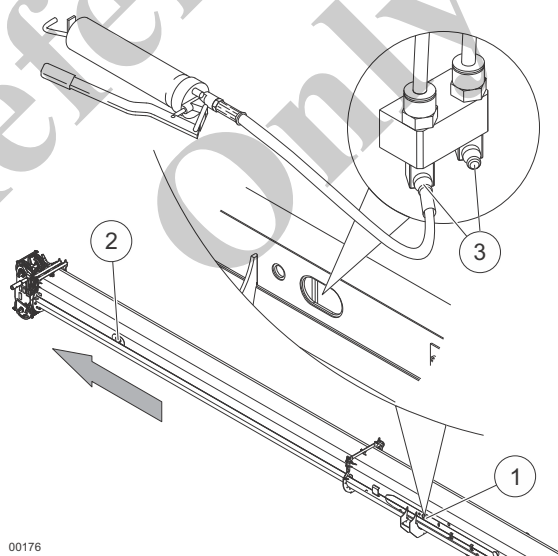

Fig. 37 Lubricating the telescopic boom
9	Extend the telescopic boom to 21.9 m – The lubricating opening (1) in Fig. 37 at the basic body must align with the opening of the telescopic section below it.
10	Lubricate the lubrication points (3) in Fig. 37 by five strokes of the grease gun.
11	Repeat the procedure at a boom extension of 40 m and at lubrication opening (1) in Fig. 37 to lubricate the third telescope section.
12	Repeat the procedure at a boom extension of 39.5 m and at lubrication opening (2) in Fig. 37 to lubricate the second telescope section.